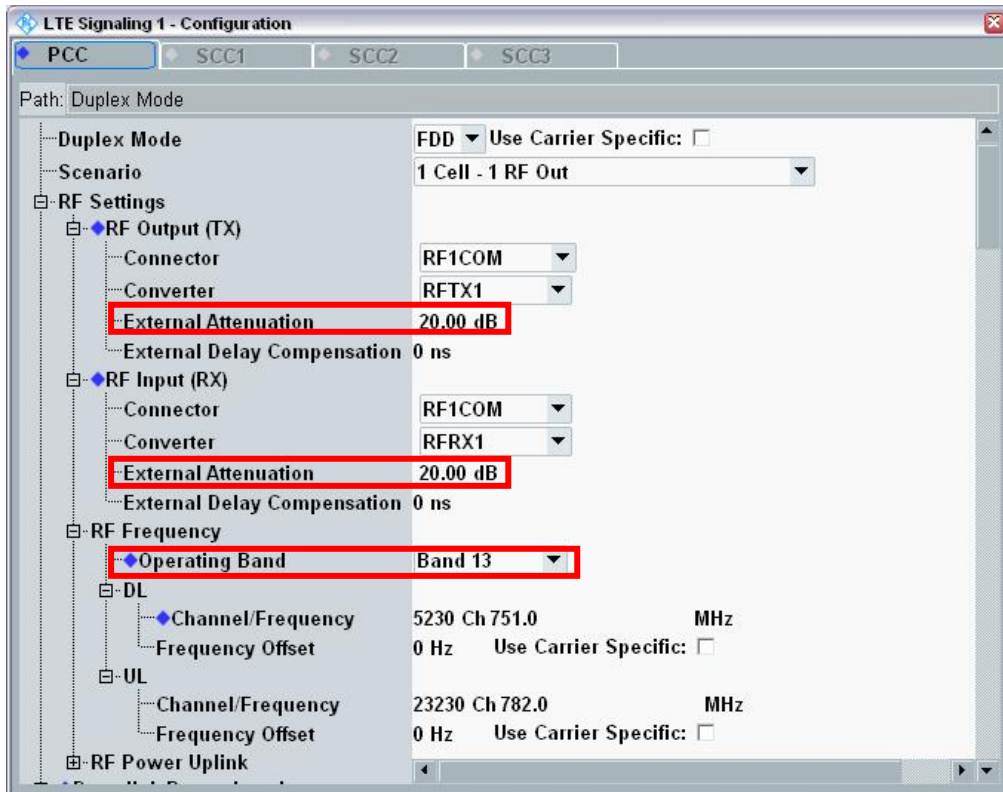

Figure 15: Configuration Menu LTE Signaling
3. Set the external attenuation of **RF Output (TX)** and **RF Input (RX)** according to the attenuation of the antenna and antenna cable (**External Attenuation** in Figure 15).
4. The **RF Frequency** → **Operating Band** (Figure 15) depends on the device under test. Set accordingly.
13. Change the external attenuation of the **RF Output** and **RF Input** (Figure 15) to adjust the appropriate target value.